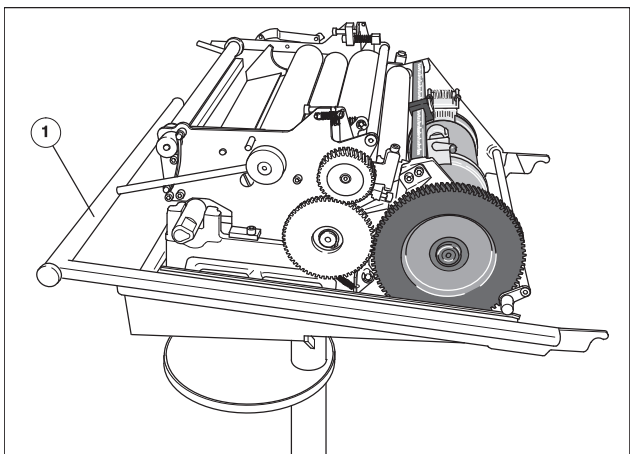

Fig. 62 Slide-in carriage
8. Uncouple the slide-in carriage with the numbering device from the press by pressing the handle rod (Fig. 62/1).